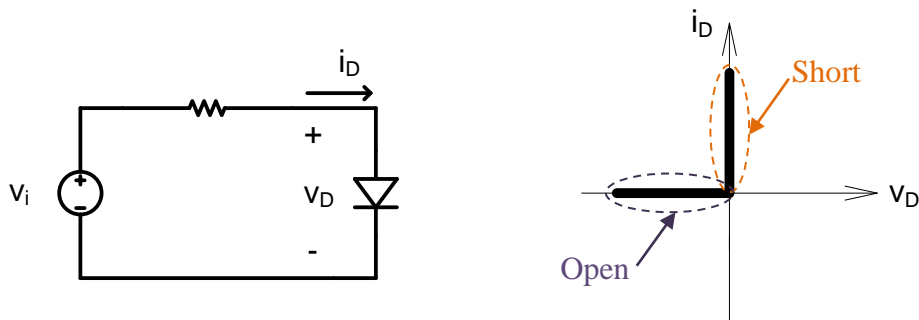

Figure 6-2: The ideal diode and v - i characteristic.
3. The nonlinear characteristic of an ideal diode is illustrated in Figure 6-2. When the source voltage v_i is positive, i_D is positive and the ideal diode becomes a short circuit ($v_D = 0$). When v_i is negative, i_D is zero and the ideal diode becomes an open circuit ($v_D = v_i$). The diode can be thought of as a switch controlled by the polarity of the source voltage. The switch is closed for positive source voltages and open for negative source voltages. In practice, however, v_D is not 0 but $v_D = 0.7$ V for a silicon diode.